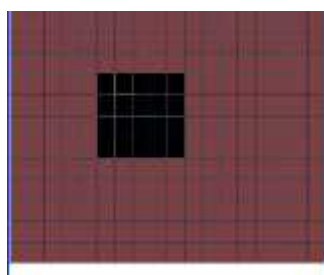

Figure 4-16
- Region: Click select button, the interface is shown as in Figure 4-16. Here you can set motion detection zone. There are 396(PAL)/330(NTSC) small zones. The green zone is current cursor position. Grey zone is the motion detection zone. Black zone is the disarmed zone. You can click Fn button to switch between the arm mode and disarm mode. In arm mode, you can click the direction buttons to move the green rectangle to set the motion detection zone. After you completed the setup, please click ENTER button to exit current setup. Do remember click save button to save current setup. If you click ESC button to exit the region setup interface system will not save your zone setup.
In Figure 4-16, you can left click mouse and then drag it to set a region for motion detection.